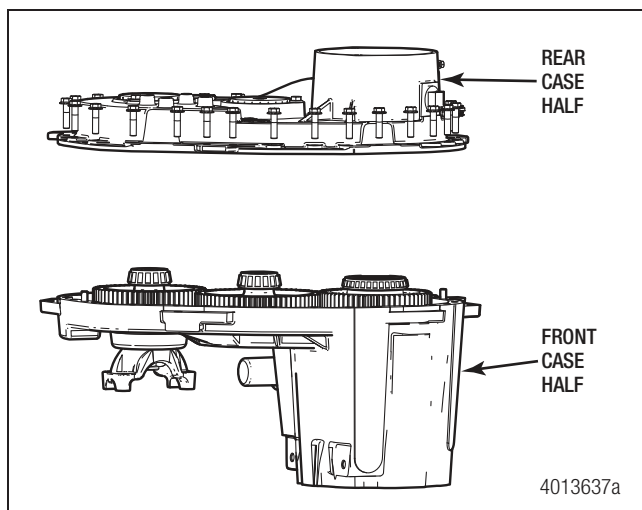

Figure 4.16
19. Use a pry bar to separate the case halves. Lift up and remove the rear case from the front case. Figure 4.16.